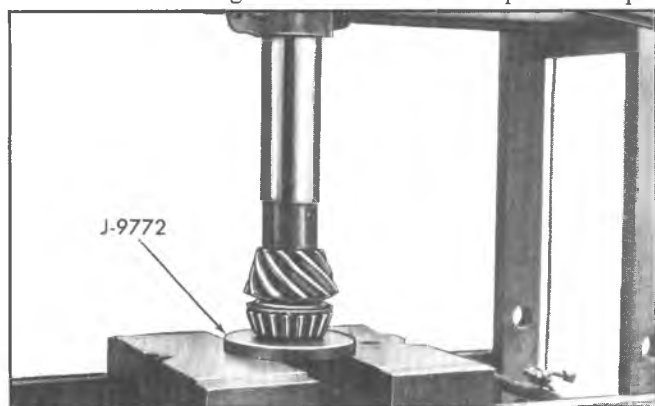

Fig. 9—Installing Inner Pinion Cone and Roller
5. Press inner pinion bearing cone and roller onto pinion shaft using Installer J-9772 on arbor press as shown in Figure 9.